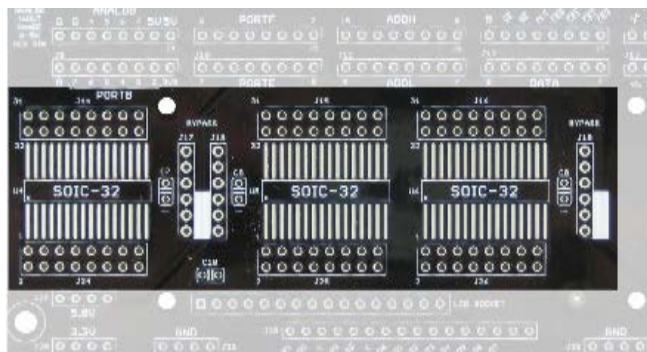
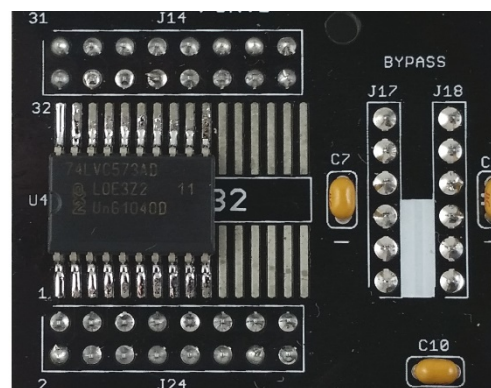
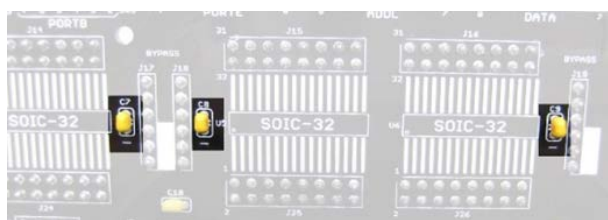

Figure 2: Locations (from left to right) of the 74'574 and 74'573 on uPAD Proto Base.
Figure 3: Placement of 74'574 (even though the picture shows a 74'573).
Figure 4: Locations of bypass capacitors.
- a. If you have not already done so, you must solder the 74'573 surface mount chip into place. Place the 74'573 in the middle SOIC island surface mount position just above your switch bank, as shown in Figure 2. The placement of the 74'574 is shown in Figure 3. Begin by soldering the two corner pins to chip in place. Add two single row 8-pin headers on each side of (above and below) the 74'573. You will wire wrap to these header pins. Solder a 0.1 μ F bypass capacitor in the designated SOIC bypass capacitor location (which are shown in Figure 4). These bypass capacitors need to be connected to the power and ground pins on your latch/flip-flop ICs; they are not connected inside the board. You must use wire-wrap to connect the capacitors. The white stripe next to the bottom three pins on the bypass capacitor headers indicate the negative pins. The pins without the